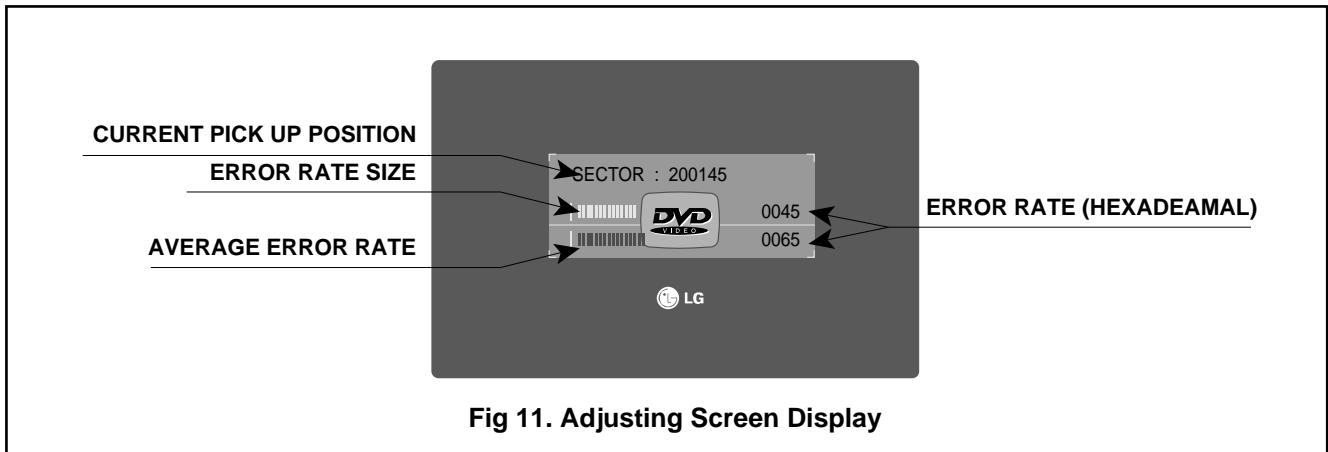

Fig 11. Adjusting Screen Display
2. Wait Unit the Sector Display is about 200, 000 (Fig.11)